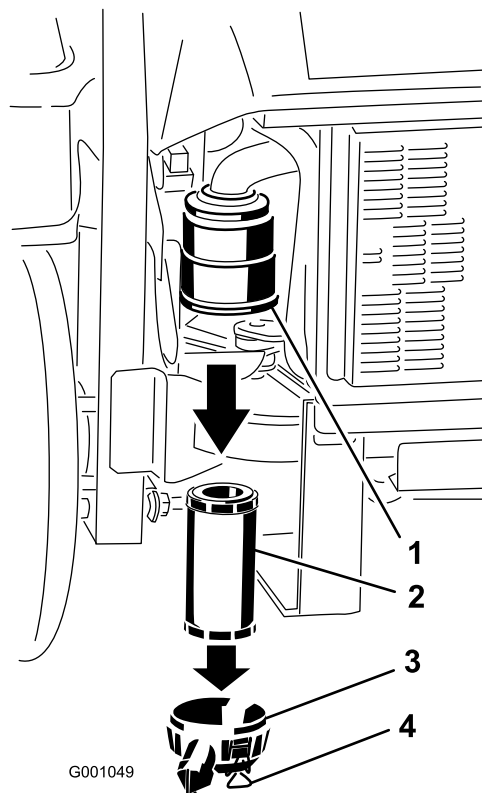

Figure 45
3. Release the latches on the air cleaner and pull the air-cleaner cover off the air-cleaner body (Figure 45).
5. Gently slide the filter out of the air-cleaner body (Figure 45).